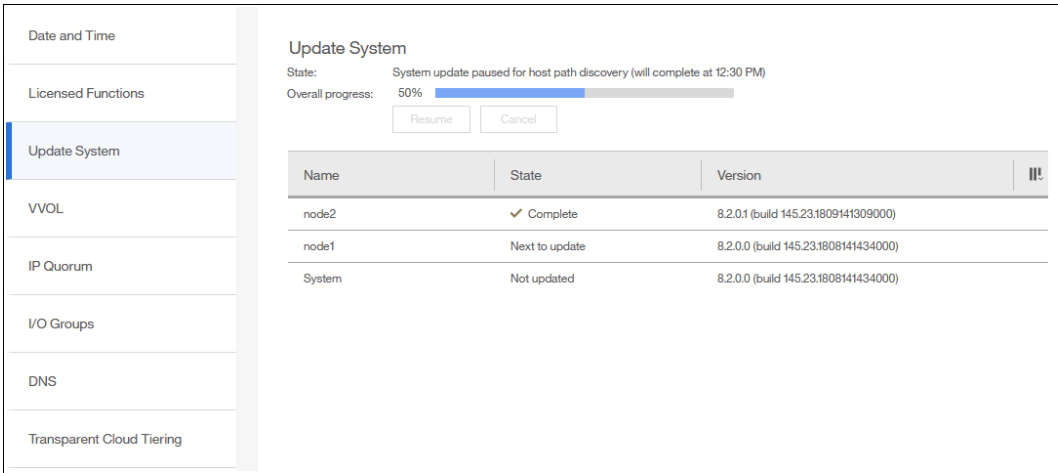

Figure 7-56 Update process paused for host path recovery
13., The system begins updating the IBM FlashSystem 9100 software by taking one node offline and installing the new code. This process takes approximately 20 minutes. After the node returns from the update, it is listed as complete as shown in Figure 7-56.